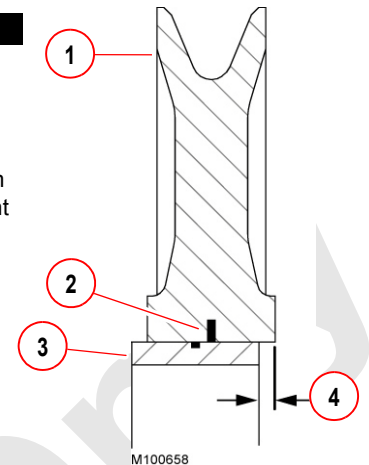

Figure 5-41.
7. Inspect nylon sheaves for excessive tread diameter wear at locations **E** in Figure 5-41 on page 5-58. Measure at three places to check for uneven wear.
8. Inspect nylon sheaves to verify they have not separated and “walked off” steel inserts or bearings as shown in Figure 5-41. Maximum sideways displacement is 1/8 in (3 mm). **Replace worn or damaged sheaves.**